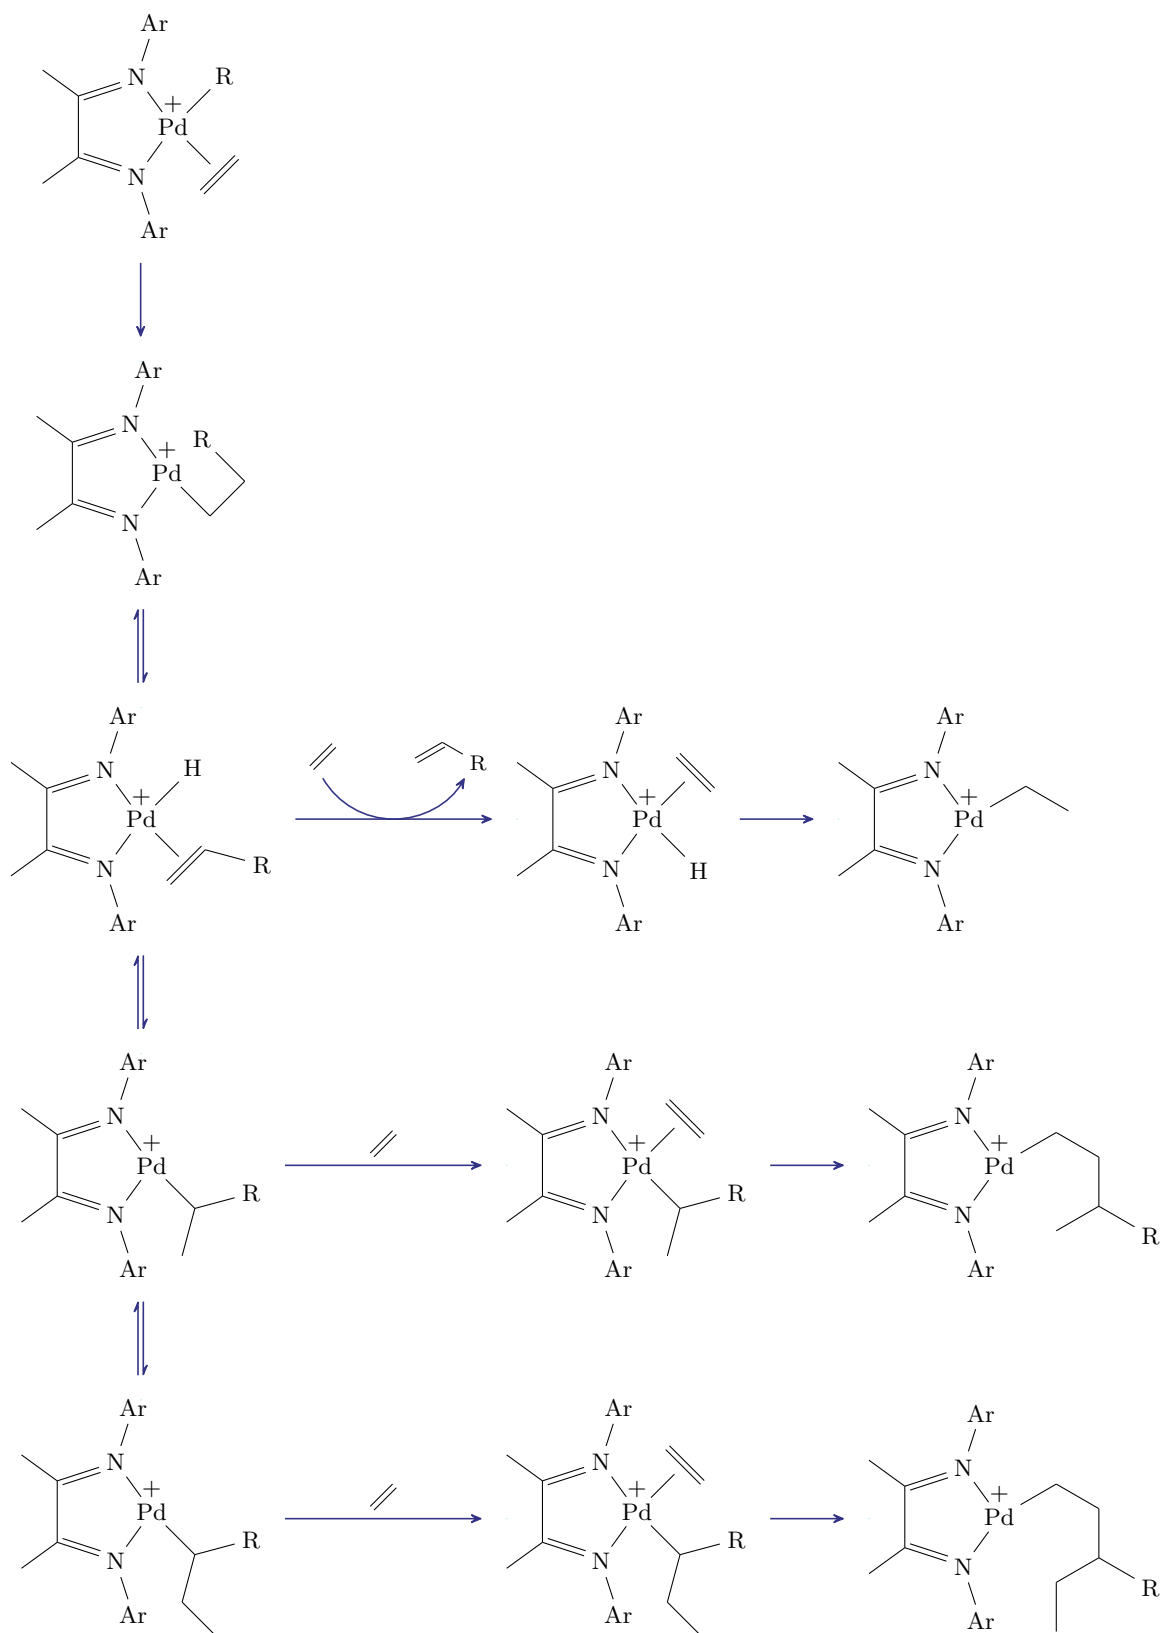

Figure 5.7: Polymerization with Brookhart catalysts.
- Brookhart type nickel- and palladium-based polymerization catalysts are introduced in Section 11.3.3 of the text. These catalysts differ from metallocene catalysts in that (1) the resting state is the (diimine) $\text{MR}(\text{ethylene})^+$ adduct 1, (2) chain walking is much faster than chain growth, (3) ethylene insertion into secondary alkyl metal species is fast, and (4) a hyper branched polyethylene is produced (ca. 100 branches at 1000 °C).
- A mechanism for polymerization showing how branches are formed (see Figure 5.7).
- It's Zr(IV) as a cation.
- Palladium(II) is d^8 and soft, while zirconium(IV) is d^0 and hard. While both are poor backbonders, the soft character of the former leads to stronger metal olefin coordination. This enables β -H elimination of $(\text{diimine})\text{PdCH}_2\text{CH}_2\text{R}^+$ to form $(\text{diimine})\text{PdHCH}_2=\text{CHR}^+$ to compete with trapping by ethylene to form the resting state, and thus enables chain walking to compete with growth.